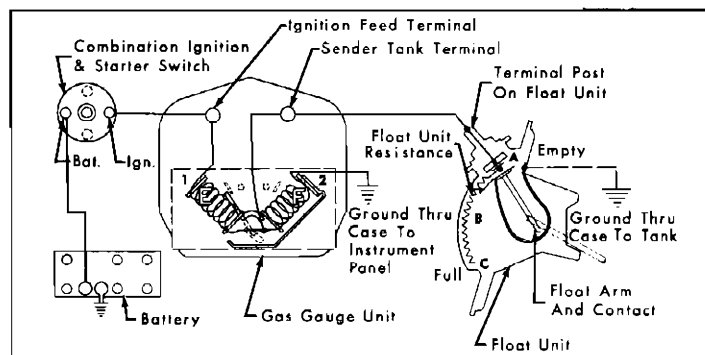

Fig. 15-8 Fuel Gauge Circuit
The first thing to do when checking a gasoline gauge is to determine whether the unit wiring is at fault. To check for a defective tank unit, disconnect dash unit to tank unit wire at tank unit and connect red lead on AC Gasoline Gauge Tester, Part No. 1516000, to wire from dash unit. The tester black lead should be grounded. See Fig. 15-8.
2. Open circuit in No. 1 coil of panel gauge, Fig. 15-8.
4. Open circuit in No. 2 coil, Fig. 15-8.
**(10) Temperature Gauge Service**